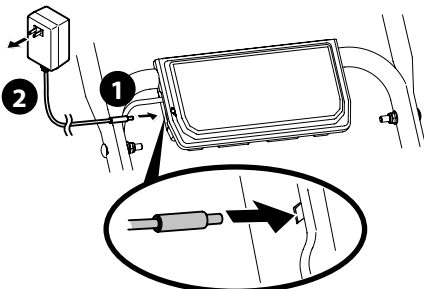

Figure 13
1. Unhinge the cover seal and plug the battery charger into the port on the side of the battery housing (Figure 13).